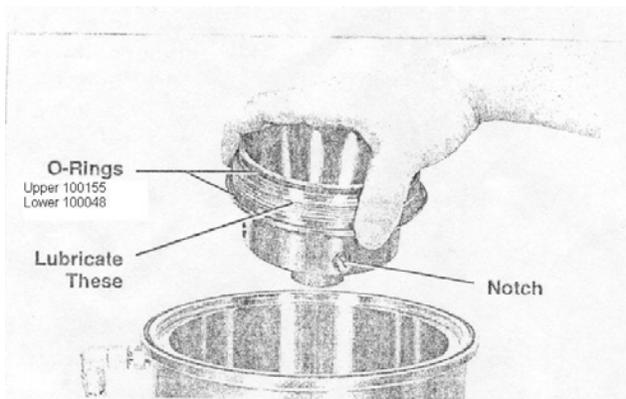

Figure 1
- 4.2 Fib the bowl hub O-rings into their slots on the bowl hub (See Attachment 1, Figure 1)
- 10.1.1 Figure 1 – Installing the Bowl Hub